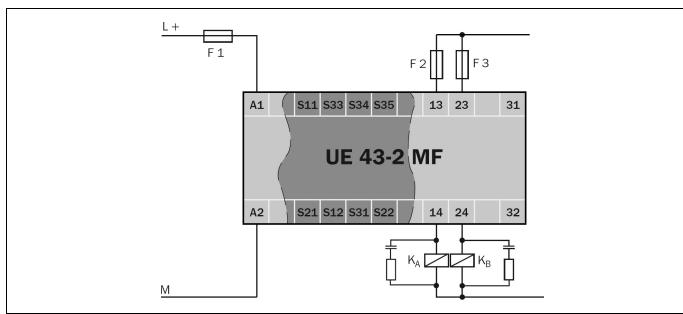

Fig. 2: Basic circuit UE43-2MF
- To prevent the welding of the contacts on the built-in relay, an overcurrent protection device with short-circuit protection (duty class gG) in accordance with the related usage category is to be selected and integrated into the enable current paths (see Fig. 2, fuse F2/F3).